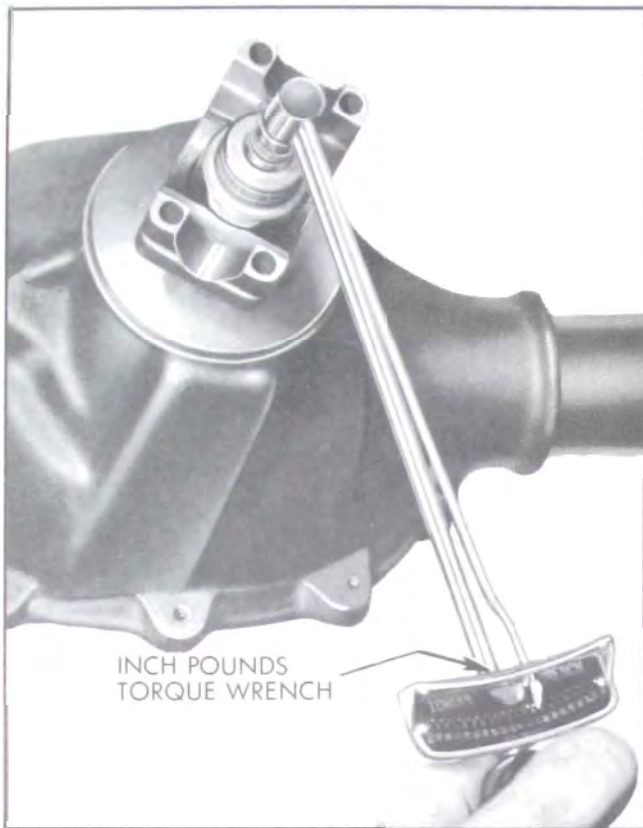

Figure 6-27—Checking Pinion Bearing Preload
6. Check bearing preload using an inch pound torque wrench connected at pinion nut. Preload reading including drag of new seal should be 25 to 35 in. lbs. with new bearings, or 15 to 25 in. lbs. with reused bearings. See Figure 6-27. If preload torque is not according to these specifications, reduce total pinion spacer thickness .001" for each added 10 in. lbs. preload desired, or increase total pinion spacer thickness .001" for each 10 in. lbs. preload to be subtracted.